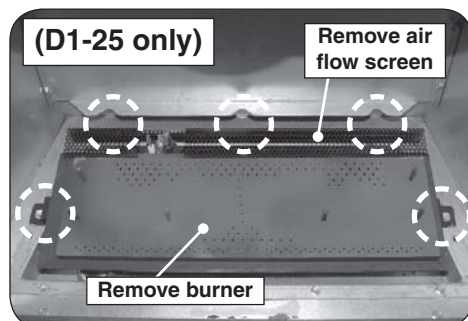
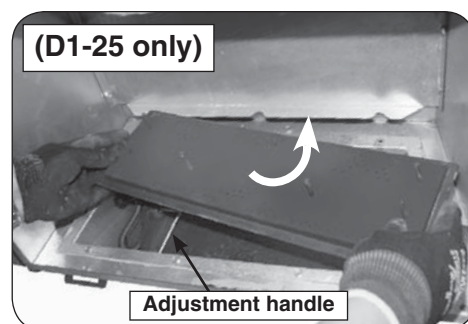

Fig. 31-3 D1-25: Remove screen & burner
Fig. 31-4 D1-25: Remove burner
D1-25 models will require the air flow screen and burner to be removed to allow for proper panel placement. Use a $\frac{5}{16}$ " nut driver to remove the three hex screws found behind the air flow screen (see Fig. 31-3) and remove the screen.
5. Unfasten the burner by removing the two hex screws using a $\frac{5}{16}$ " nut driver (see Fig. 31-3). Remove the burner by sliding it to the right, so that the venturi tube clears the orifice, then fully out (see Fig. 31-4).
Important: When removing the burner, use caution as the burner adjustment handle must come out with the burner. See Fig. 31-4.